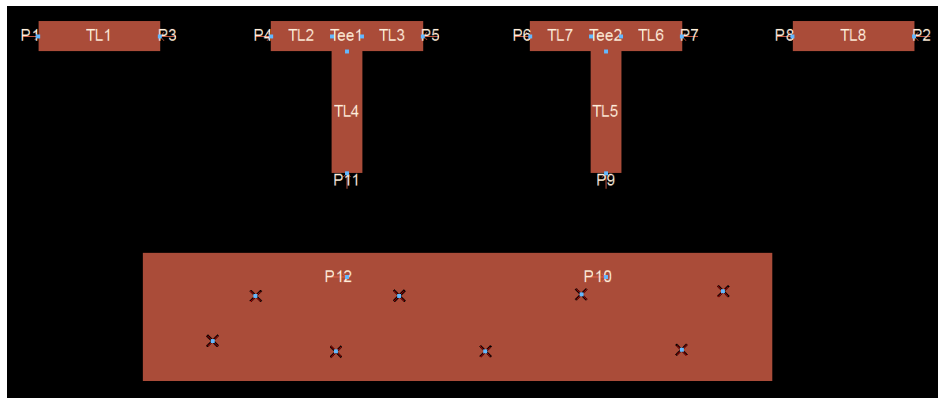

Figure 37. Layout of circuit with MLIN and MTEE
1. Create the layout manually using **MLIN** and **MTEE** components (from the TLines-Microstrip palette). The layout should be similar to what was shown in Figure 37. To match the results shown at the end of the section, the transmission line widths are 5 mm, and the lengths are 20 mm. For the two transmission lines connected to the top of the MTEE components, the lengths are 10 mm. In the rectangle at the bottom (using the polygon tool), make sure the add VIAs. This will be connected to ground.